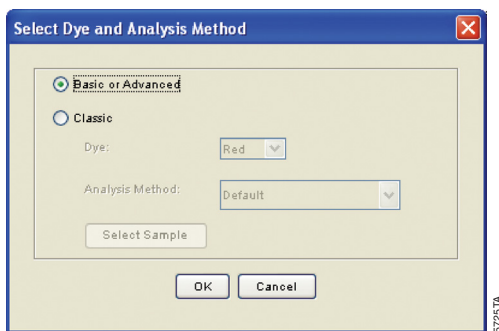

Figure 17. The Select Dye and Analysis Method window.
4. Select “Basic or Advanced” (Figure 17). The type of analysis method selected must match the type of analysis method created earlier. Select “OK”.